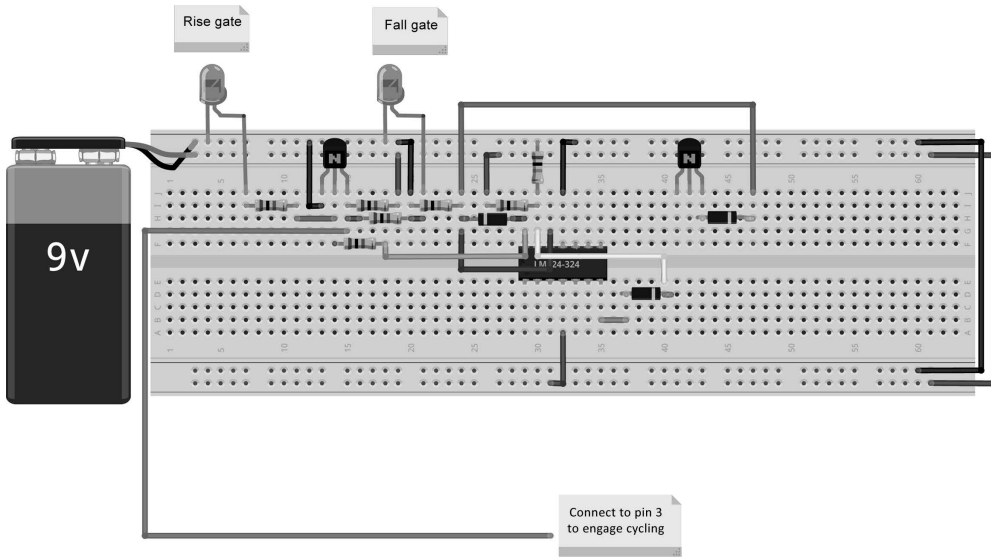

Figure 30.4 Flip flop.
This type of logic switching circuit is called a flip flop (Figure 30.4). It alternates between high and low states at its output in response to a voltage received at a Set input (switch to high) or a Reset input (switch to low). We'll use our remaining op amp (D) to build one of these.